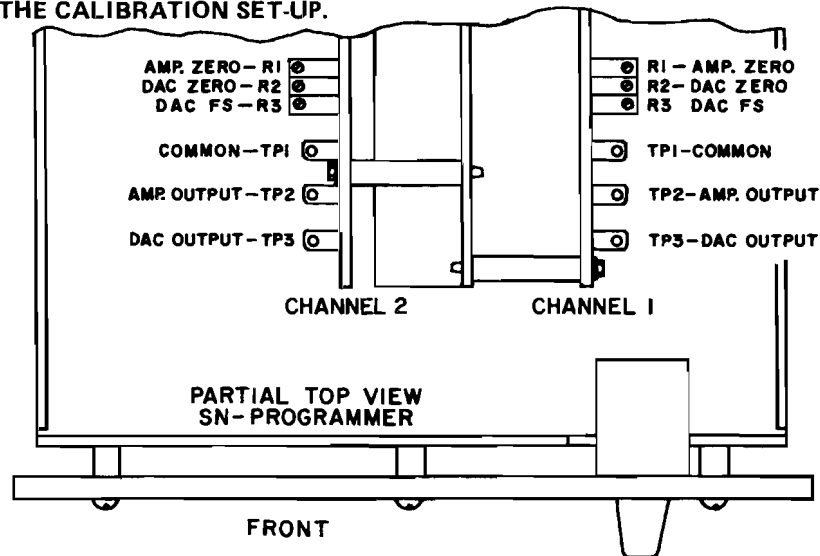
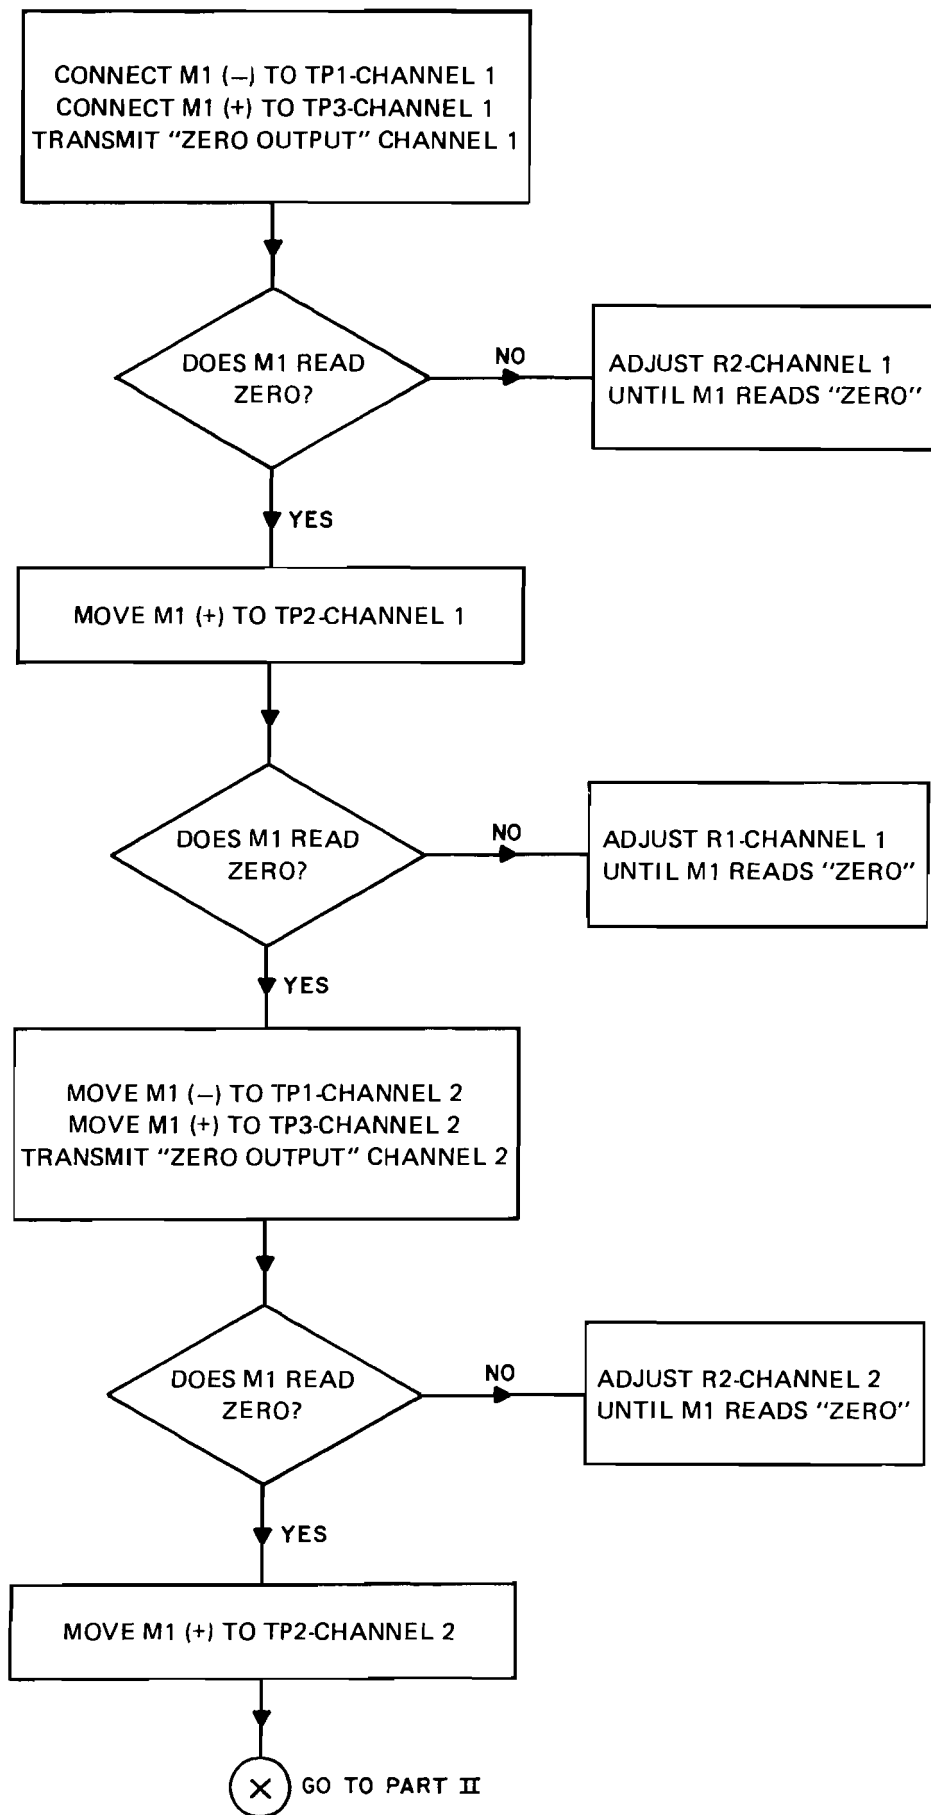

FIG. 3-8 LOCATION OF TEST POINTS AND CALIBRATION CONTROLS, SN 488 AND SN 500 DIGITAL PROGRAMMERS
FIG. 3-9 CALIBRATION FLOW-CHART, PART I
B) Refer to Fig. 3-8 for the location of TEST POINTS and CALIBRATION CONTROLS. Proceed as directed on the FLOW-CHART, Fig. 3-9 and Fig. 3-10.